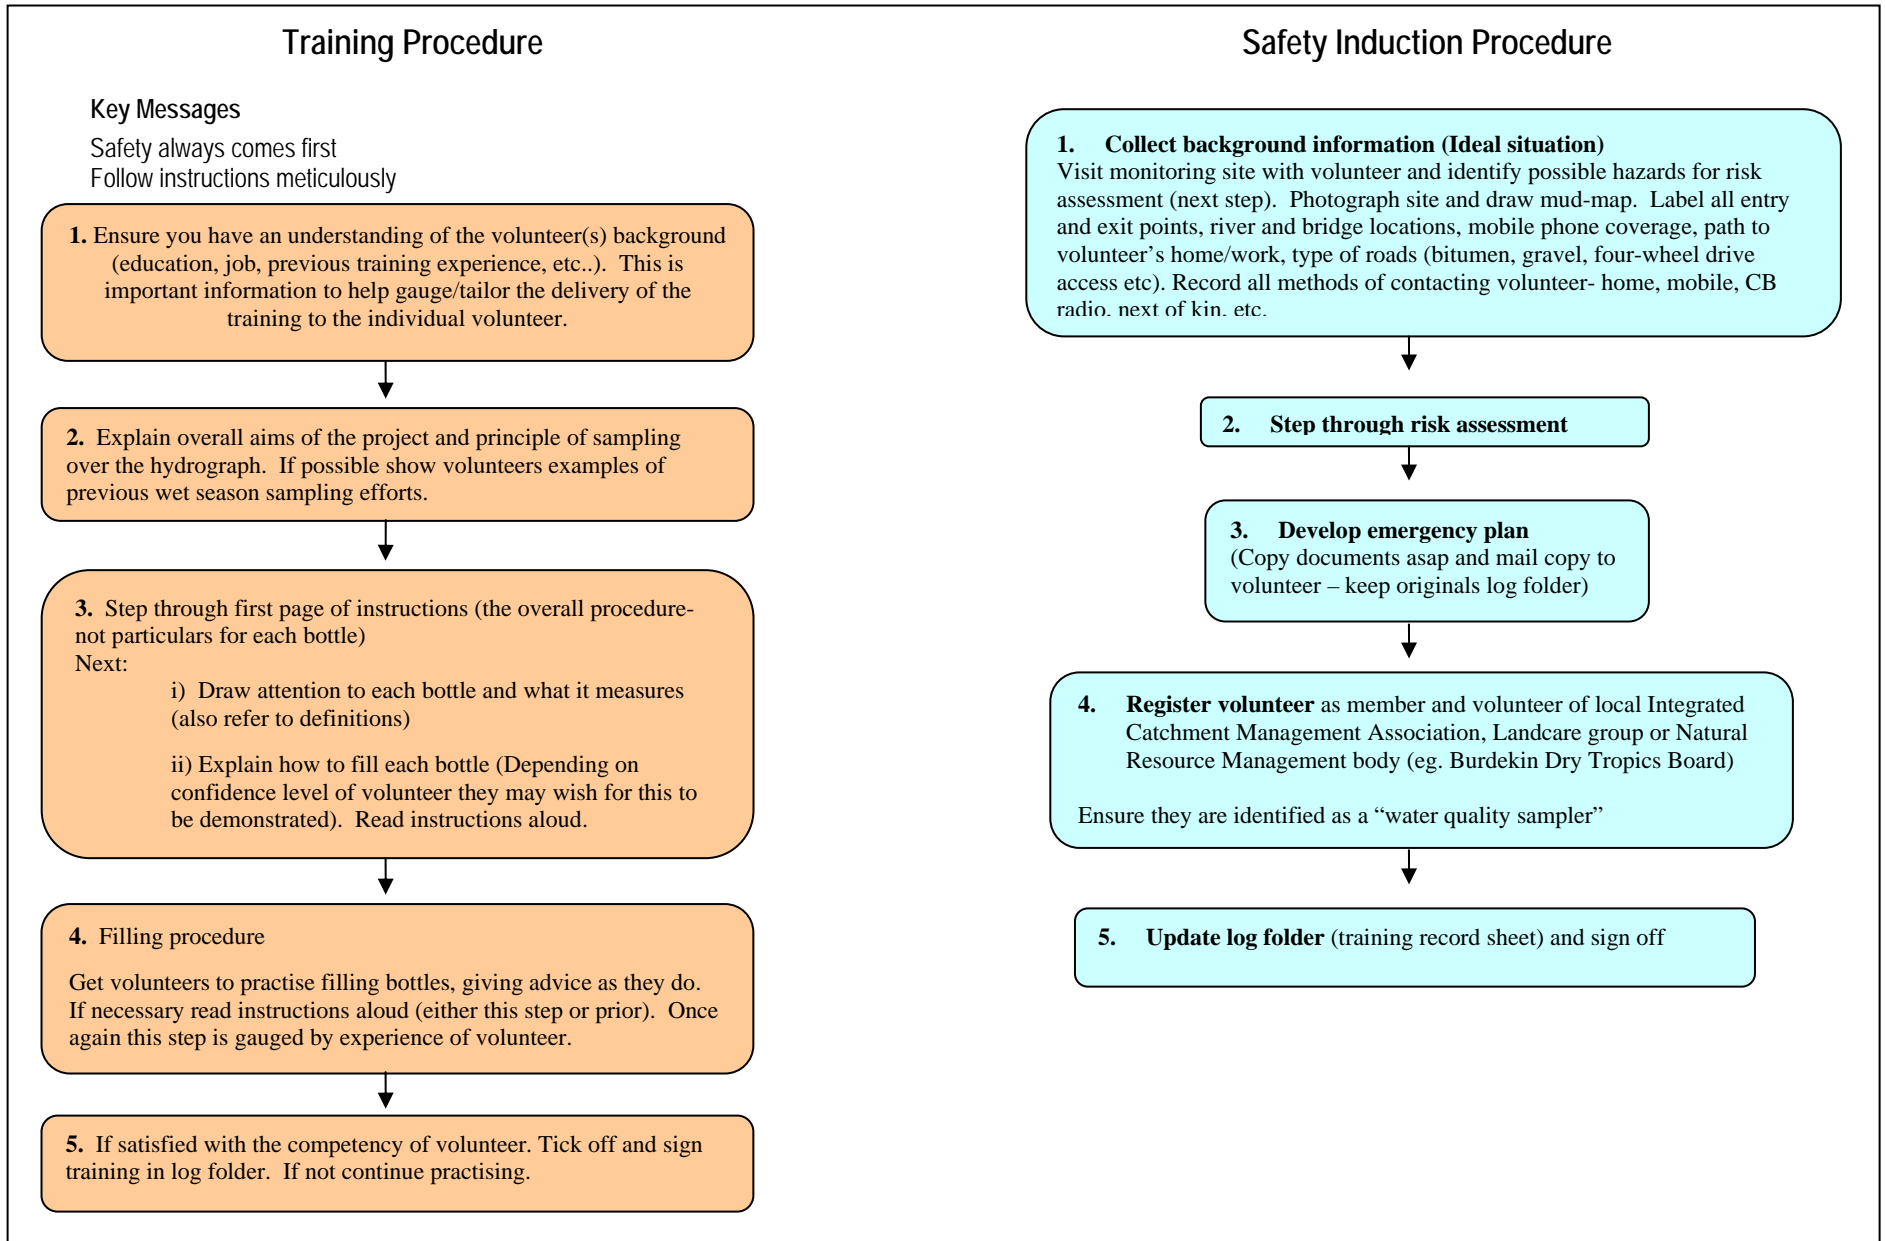

Figure 3 Training and Safety Procedures for Volunteer Inductions
- **Implementation of volunteer sampling training and safety induction:** Procedures for project officer to implement sampling training and safety inductions were developed into a flow chart step-by-step process that is outlined in Figure 3. Individual property visits were conducted (Oct 2005-February 2006) to train new volunteers and provide safety inductions (undertake the risk assessment process) to all volunteers using the new procedures developed. Most training was undertaken at the volunteers homestead (with a visit to the sampling site to fill out the risk assessment and emergency evacuation plan), however, some training was conducted at the end of Landcare group meetings or other organised venues. As most sites are considerable distances from Townsville, sampling and safety training was usually conducted at the same time. A check list with all sites visited and volunteer registration forms will be provided to BDTNRM.